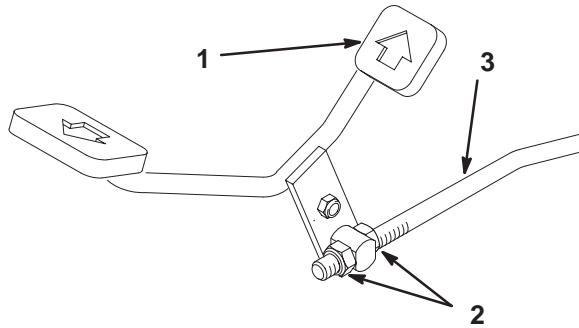

Figure 27
3. Loosen the jam nuts on the control rod (Fig. 27).